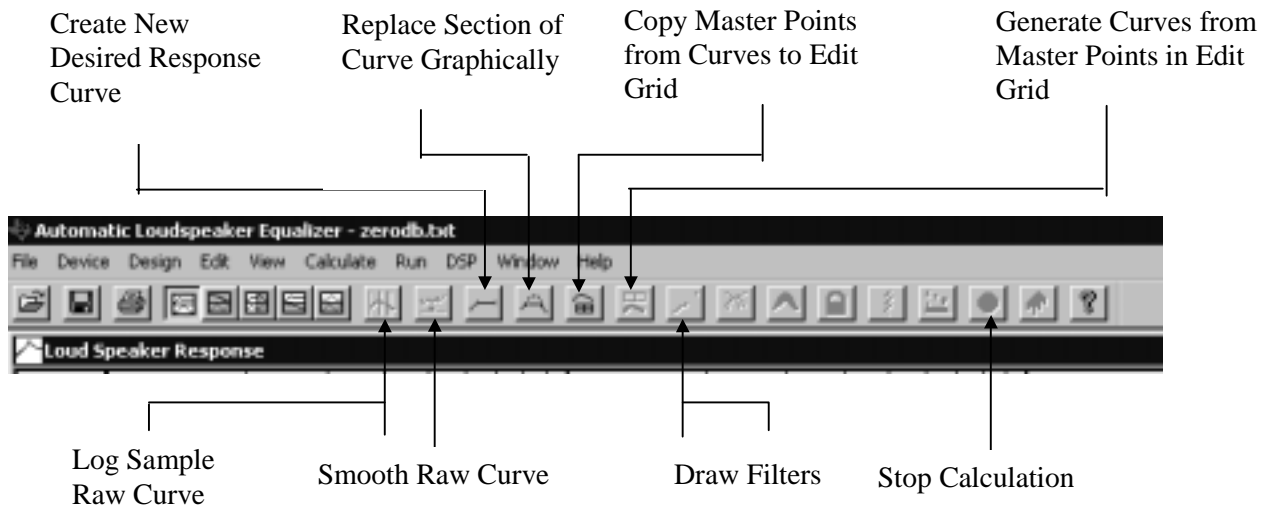

Figure 1: Automatic Loudspeaker Equalizer GUI
The first step to using the ALE software package is to unzip and install it. Upon opening the installed ALE package, the GUI shown in Figure 1 appears. This GUI only applies when using the ALE to create equalization (EQ) filter coefficients and is the default GUI. Two other GUIs can be accessed – a GUI for generating dynamic range compression coefficients and a GUI for generating loudness compensation filter coefficients.